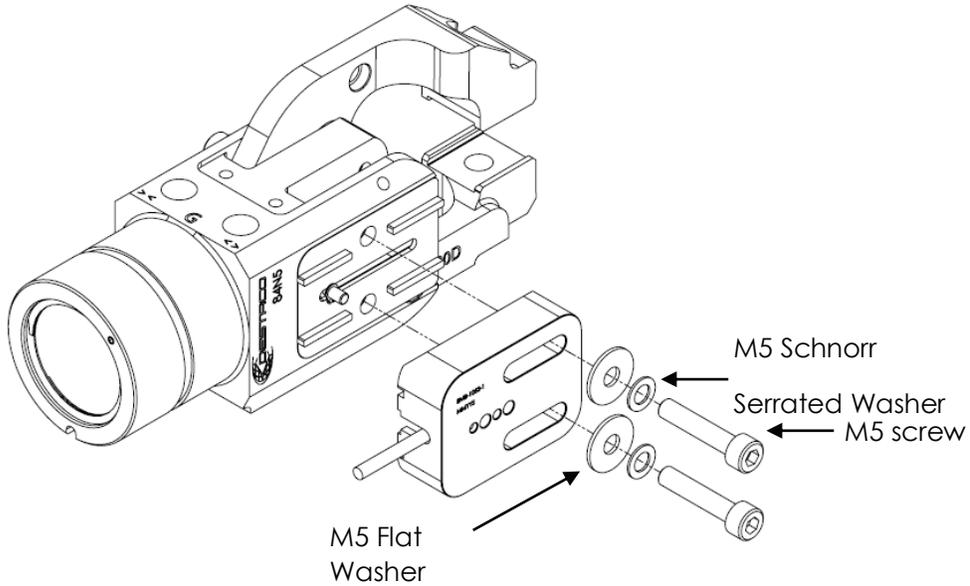

Fig.26
7. Mount the Sensor Carriage to the gripper with M5 Flat Washer, M5 Schnorr Serrated Washer & M5 Screw (see Fig.26)